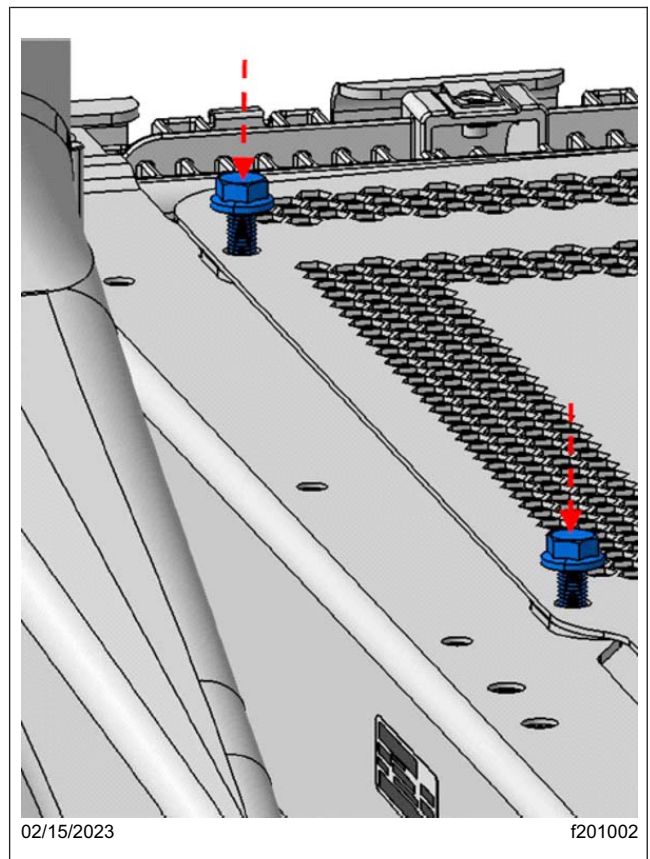

Fig. 3, M8 Flange Bolt Installation
- 10.2 Tighten the M8 hex flange bolts 13 ± 1.5 lbf·ft (18 ± 2 N·m). See **Fig. 3**.